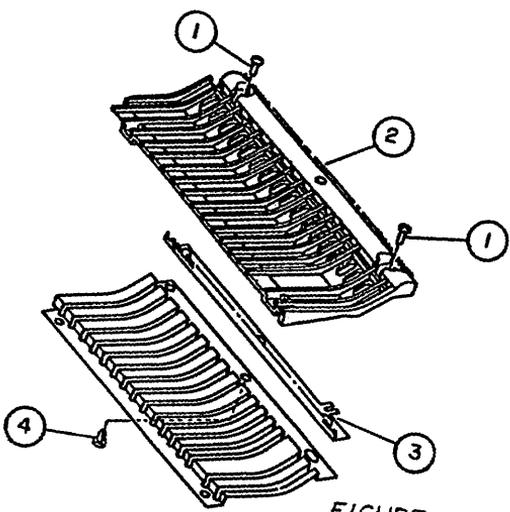

FIGURE 2
Feeder Guide Assembly (Figure 2).....	6.8
**FEEDER GUIDE ASSEMBLY (Figure 2)**